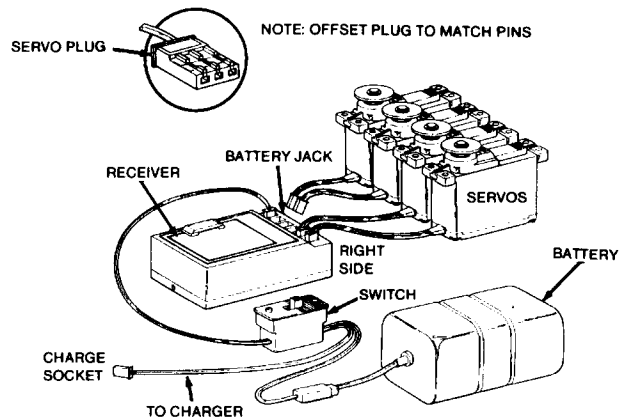
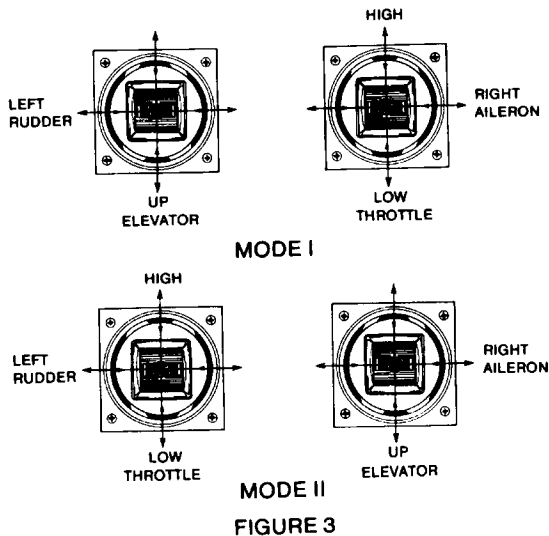

FIGURE 2
FIGURE 3
6. Figure 2 shows how to connect the components of your system together. Note the servo and switch harness plugs are inserted in the receiver so that the red coded wires are to the right side of the receiver. At this point, your objective is to get the system operating on your workbench. Once connected, you must then refer to the corresponding diagram for your system (Figure 3), showing the transmitter control sticks' function.